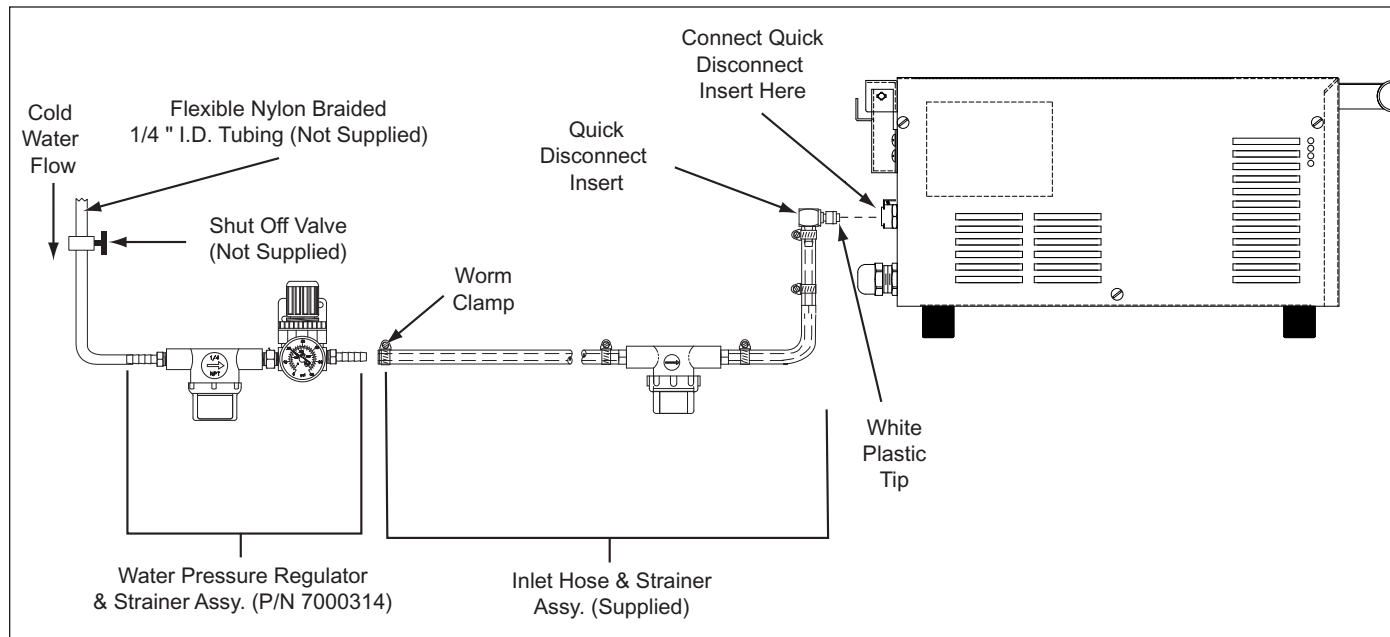

Figure 4. Connecting Water Supply to DFW/DFWT/DFWF-200/250
These models require a direct cold water hookup. A Water Inlet Hose and Strainer Assembly (Figure 4) is supplied.
1. Turn off the water valve (not supplied) that supplies water to the unit (Figure 4).
2. Connect the 1/4" (6.5 mm) I.D. Flexible Tubing to the outlet side of the Water Pressure Regulator and secure using the worm clamp as shown in Figure 4.
NOTE: A Water Pressure Regulator must first be installed as shown in Figure 4. Failure to do so will result in poor steaming and possible flooding. For a single steamer, use Water Pressure Regulator P/N 7000314. For two adjacent steamers, use Water Pressure Regulator P/N 7000235.
4. Over a bucket, press and hold the white plastic tip on the Quick Disconnect Insert (Figure 4) until good, steady water flow is noted (this will purge all air out of the line). Release and note the pressure on the Water Pressure Regulator gauge. It should read 20-25 PSI. If it reads more or less, adjust the pressure by pulling the black knob upwards and turning it clockwise to increase or counter-clockwise to decrease the water pressure. Push the knob down to lock it in place.
5. Push the Quick Disconnect Insert into the fitting at the rear of the unit until a "click" is heard (Figure 4).